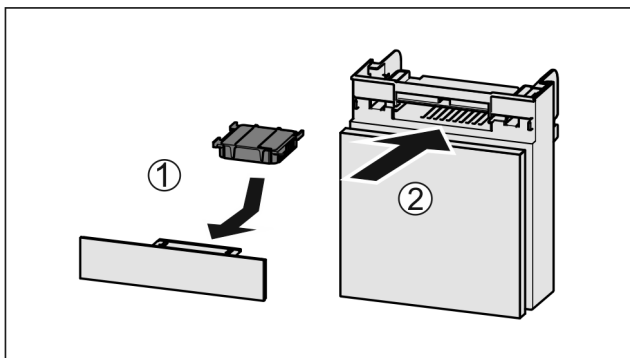

Fig. 149
- Insert the carbon filter as shown in the diagram Fig. 149 (1).
- Push the compartment in Fig. 149 (2).